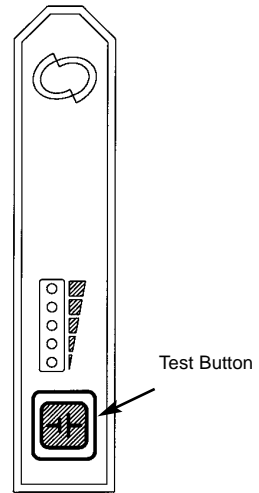

Figure 15 TLC-II Battery
- Each battery provides at least 55 minutes (BIVAD) to 80 minutes (LVAD or RVAD) when fully charged (**Figure 15**).